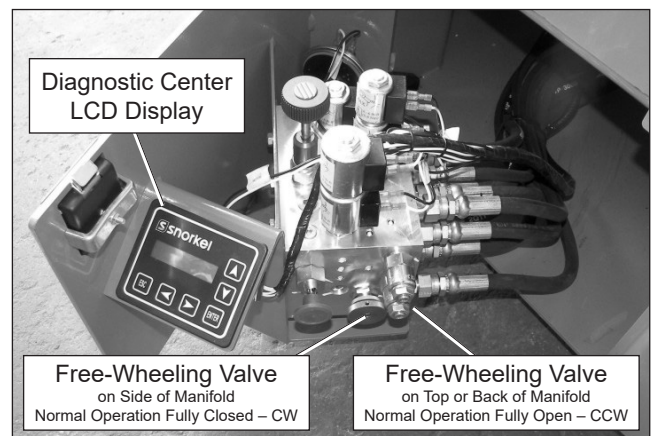

Figure 8.7 – Control Valve Tray
- Inspect all hydraulic hoses, tubes, and fittings for wear, leakage, or damage (refer to Figure 8.7).
The free-wheeling valve is on the hydraulic manifold in the control valve tray. On some manifolds the valve is on the side and on others it is on the back (refer to Figure 8.7).
To test the diagnostic center display in the control valve tray (refer to Figure 8.7), from the lower controls: